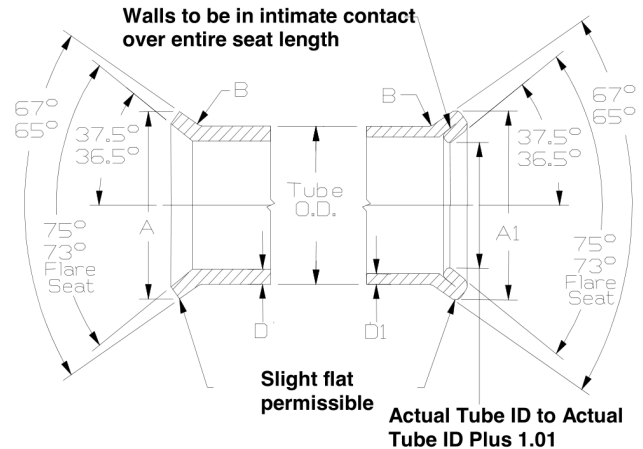
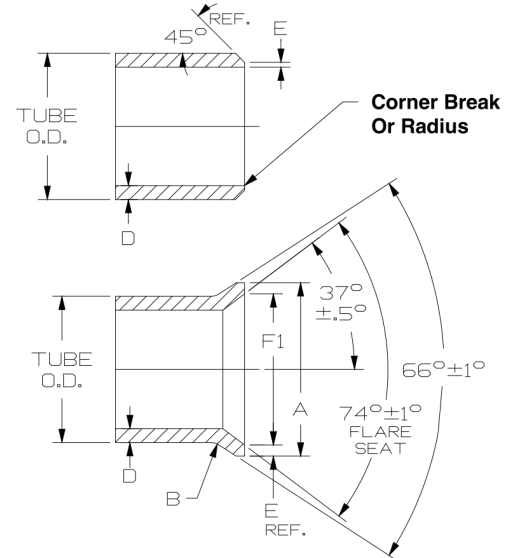

Fig.23 Single and Double 37° Flares for Tubing
Fig.24 Optional Tube Preparation and Single 37° Flare for Tubing
3. Deburr O.D. and I.D. of tube. Refer to Fig.24 and Table M for recommended tube chamfers for heavy wall tubing.
6. Using the correct flaring tool for the tube size and desired flare angle, flare the tube end. Refer to Fig.23 for thin wall tubing flares and to Fig.24 for typical hydraulic system pressure line tubing flares.
7. Inspect flare to the dimensions indicated in Fig.23, Fig.24 and Table M. In addition, flare should be checked for concentricity, thin out, cracks, nicks, loose slivers, burrs, pits or other defects which may prevent sealing.